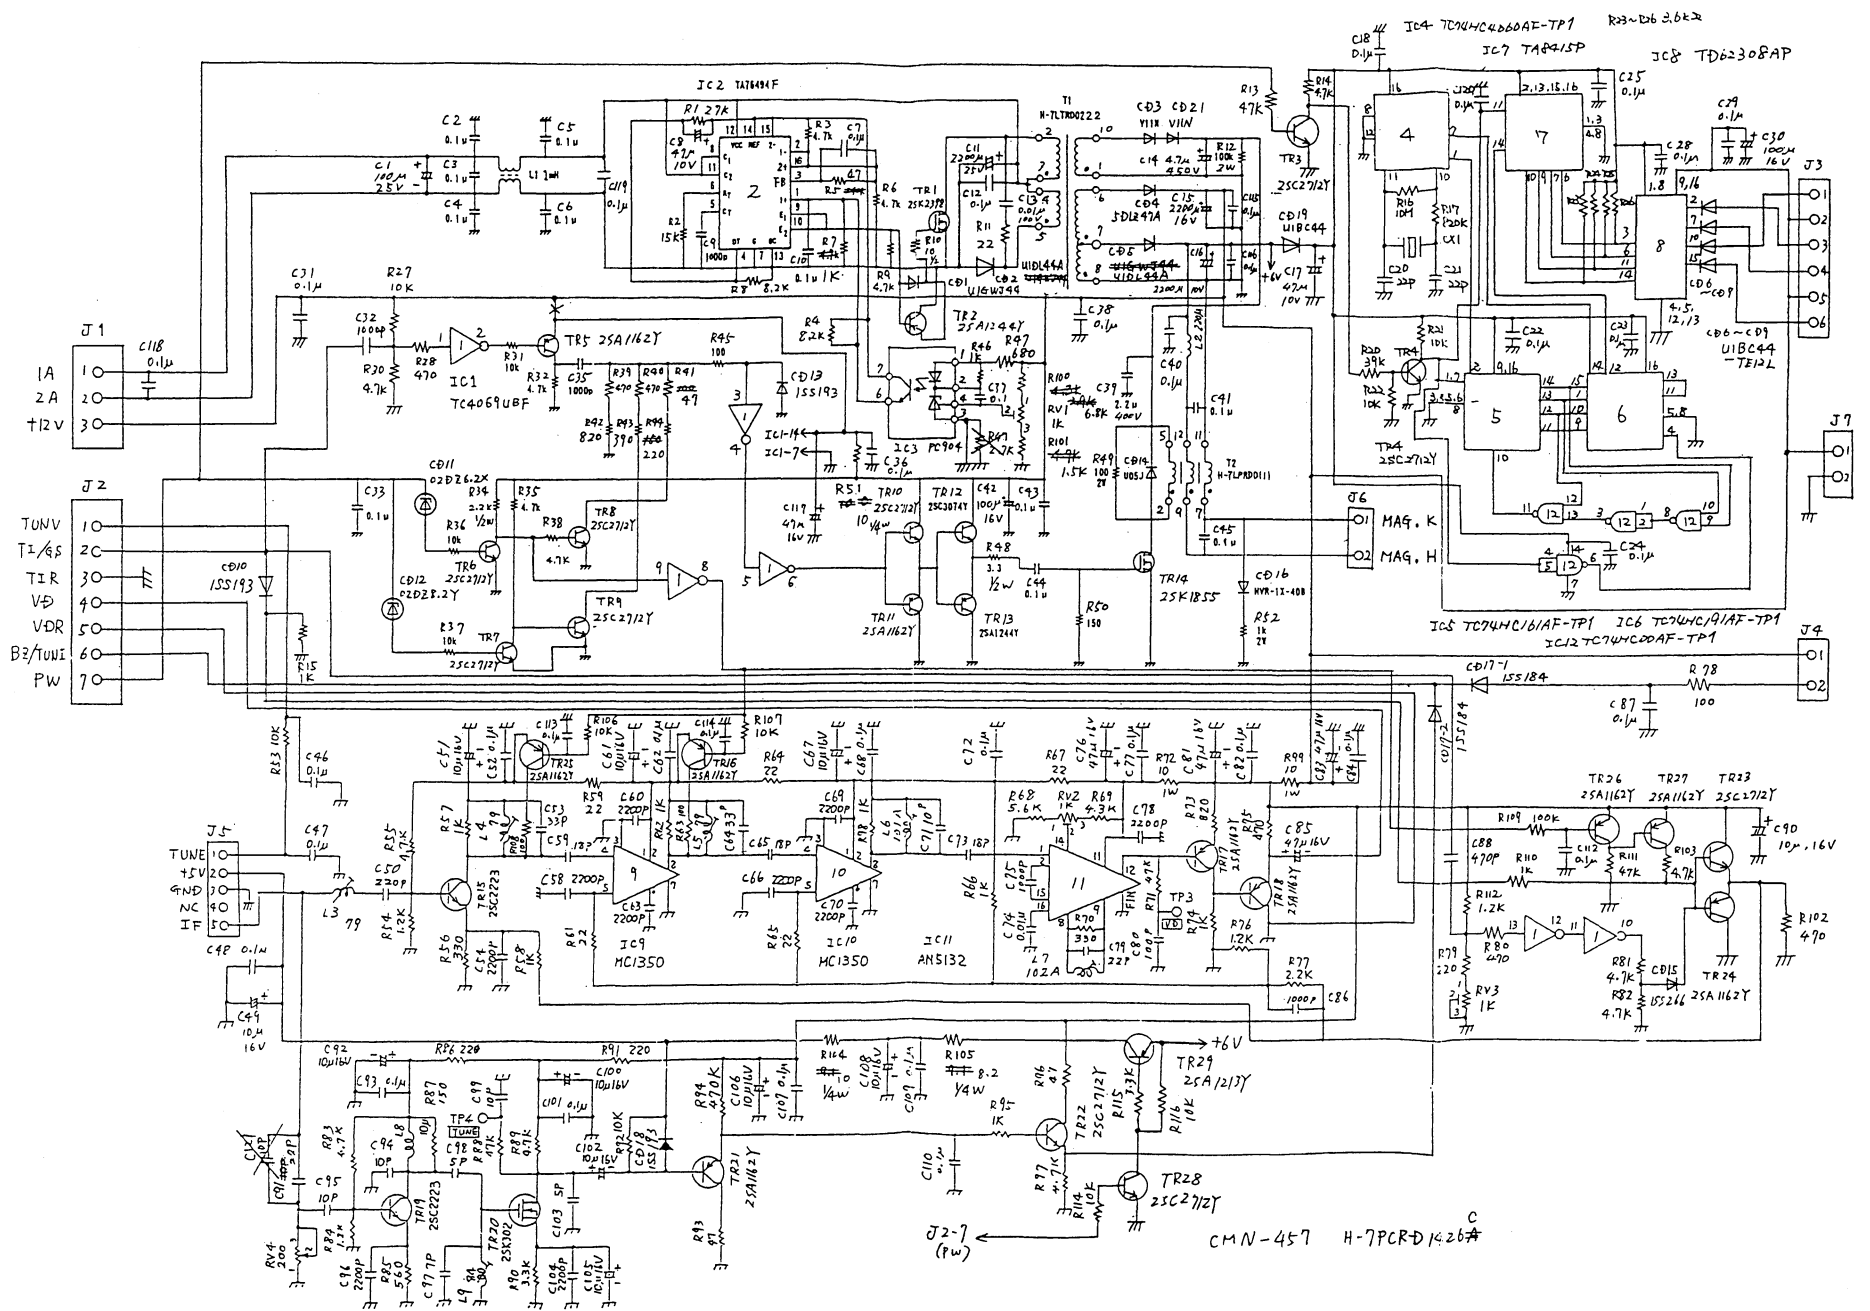

Fig. 106 CMN-457 Modulator/Receiver
- Fig. 106 CIRCUIT DRAWING OF MODULATOR/RECEIVER CMN-457